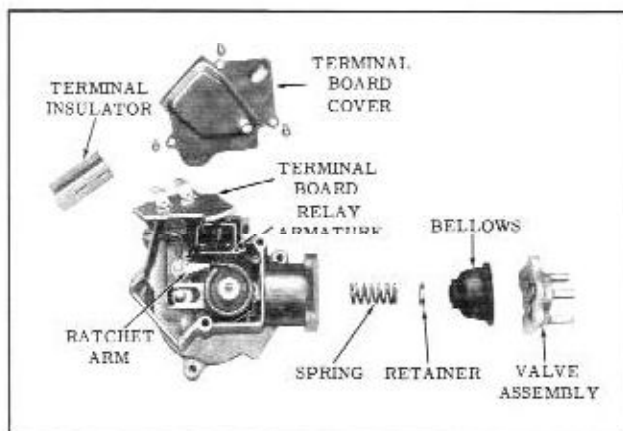

Fig. 13-130 Washer Valve Assembly
1. Remove the valve assembly by removing 4 retaining screws and prying gently between plastic valve body and pump housing. (Fig. 13-130)